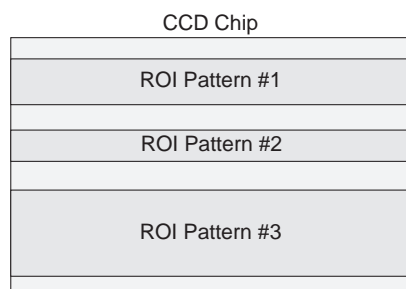

Figure 114. Multiple Full-width ROIs
1. ROIs cannot overlap. This places restrictions on the Slit (Y) values that can be specified. For example, if Pattern 1 has a Slit Start value of 1 and a Slit Height 100, the Start value for the next ROI must be greater than 100. *If a Full pattern is selected and stored, it overlaps all others, causing all data collections to be full-chip.* Figure 114 illustrates multiple full-width ROIs.
Note: In Spectroscopy mode, ROIs created via the mouse are limited to full chip width like the ones depicted in Figure 114. This is not the case in Imaging mode.